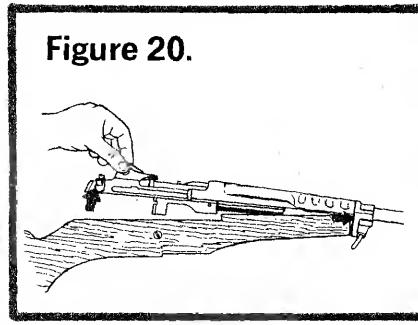

Figure 20.
7. Remove barrel/receiver assembly from stock (Figure 20).